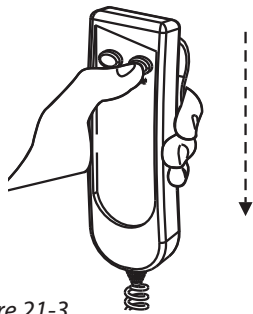

Figure 21-3
16. Press the DOWN button until the lift's tower has moved out of the vehicle. [Figure 21-3]